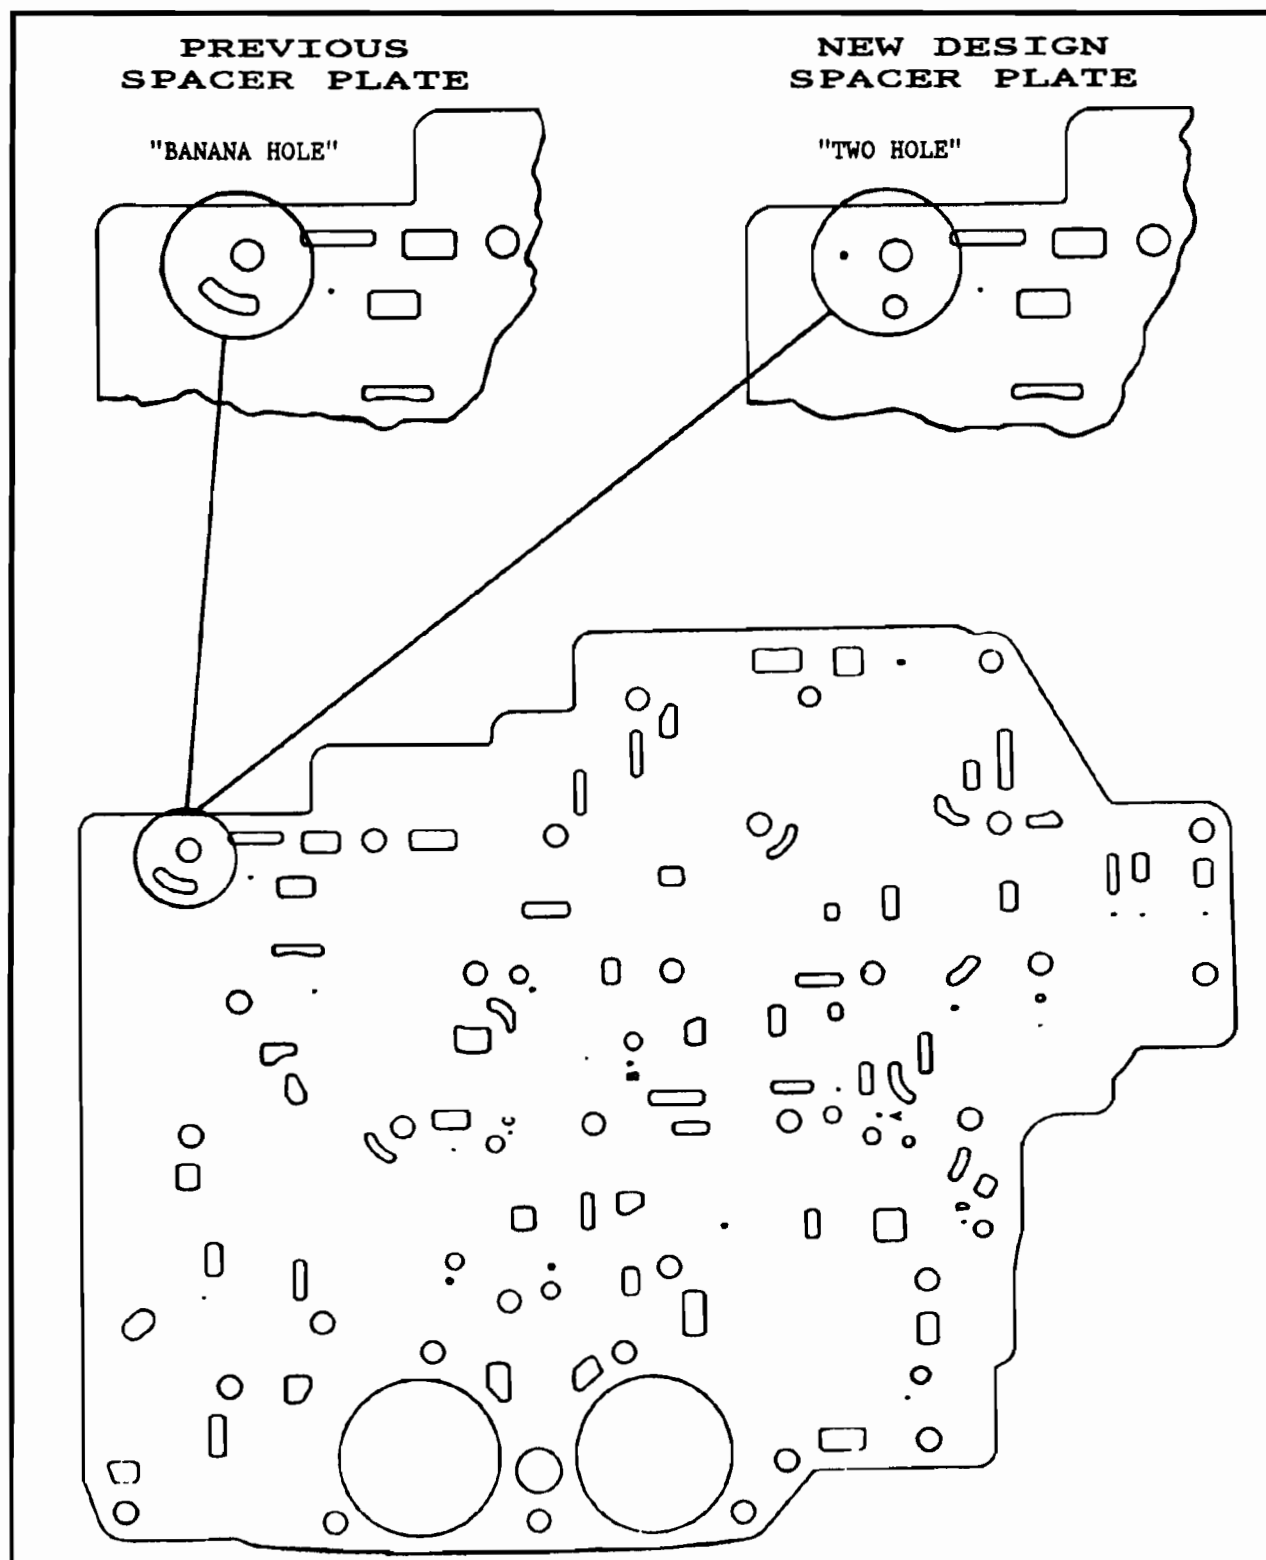

Figure 25
- (2) VALVE BODY SPACER PLATE - The "Banana Hole" in the previous spacer plate was eliminated, with a round feed hole and orifice hole added on each side of the new dam in the case to make orifice effective (See Figure 25).